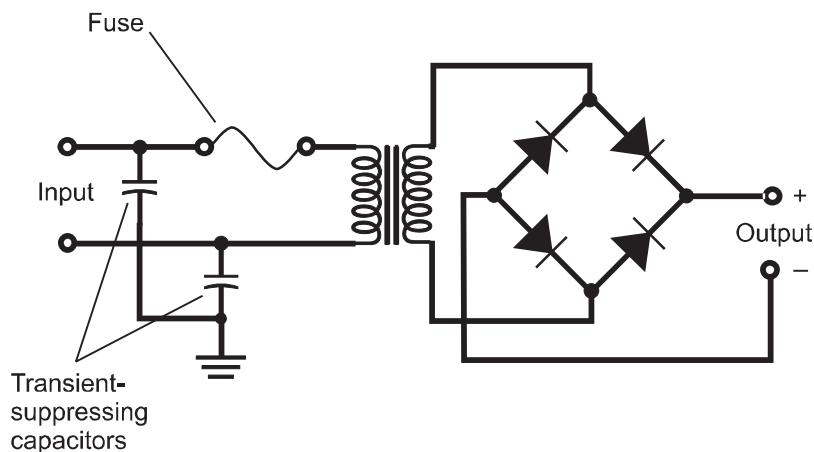

Fig. 8-11. A full-wave bridge rectifier with transient-suppression capacitors and a fuse in the transformer primary circuit.
The simplest way to get rid of common transients is to place a small capacitor of about $0.01 \mu\text{F}$, rated for 600 V or more, between each side of the transformer primary and electrical ground, as shown in Fig. 8-11. A good component for this purpose is a *disk ceramic capacitor* (not an electrolytic capacitor). Disk ceramic capacitors have no polarity issues. They can be connected in either direction work equally well.
A *fuse* is a piece of soft wire that melts, breaking a circuit if the current exceeds a certain level. A fuse is placed in series with the transformer primary, as shown in Fig. 8-11. A short circuit or overload anywhere in the power supply, or in equipment connected to it, will burn the fuse out. If a fuse blows out, it must be replaced with another one of the same rating. Fuses are rated in amperes (A). Thus, a 5 A fuse will carry up to 5 A for a little while before blowing out, and a 20 A fuse will carry up to 20 A.